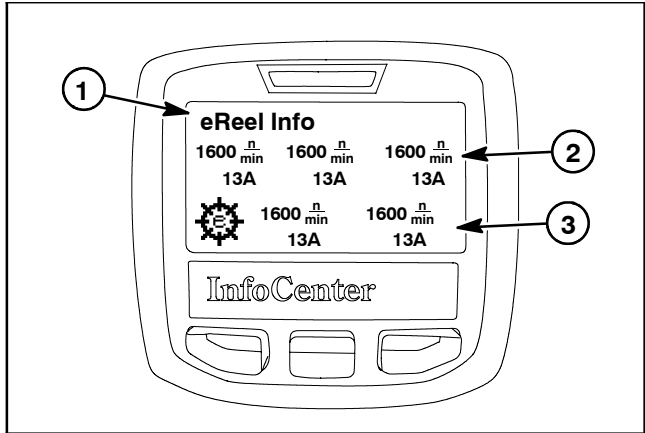

Figure 15
The **eReel Info** screen (Fig. 15) displays the speed and current draw for the five (5) individual cutting unit motors.